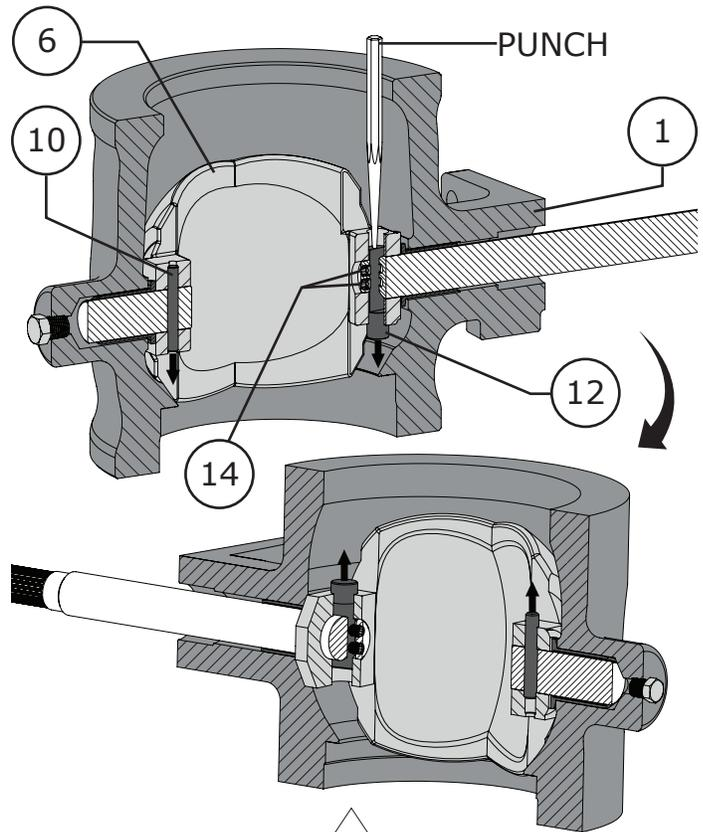

Figure 18 3 to 12 Inch Shaft Connection Removal
NOTE: 3 to 12 inch valves use a combination of shaft key (Key 12) and pin (Key 10) to connect the shafts (Key 9 & 11) to the ball (Key 6). These shaft connectors can only be driven out from one end of the shaft connection (from the tapered end of the shaft key and through the non-staked hole out the staked hole for the follower shaft connection). Refer to Figure 18.
- 2 With the ball (Key 6) in the OPEN position with the tapered end of the shaft connection facing up as shown in Figure 18, support the ball so that it will not rotate.
- 4 Using a punch, carefully drive the shaft key (Key 12) and follower shaft pin (Key 10) partially out of the ball (Key 6). **NOTE:** For some valves sizes it will not be possible to completely drive the shaft key and shaft pin out towards the INLET side of the valve (refer to Figure 18).
- 5 Using the valve shaft (Key 11), rotate the valve ball (Key 6) 180 degrees, as shown in Figure 18, in order to finish removing the shaft key (Key 12) and follower shaft pin (Key 10).